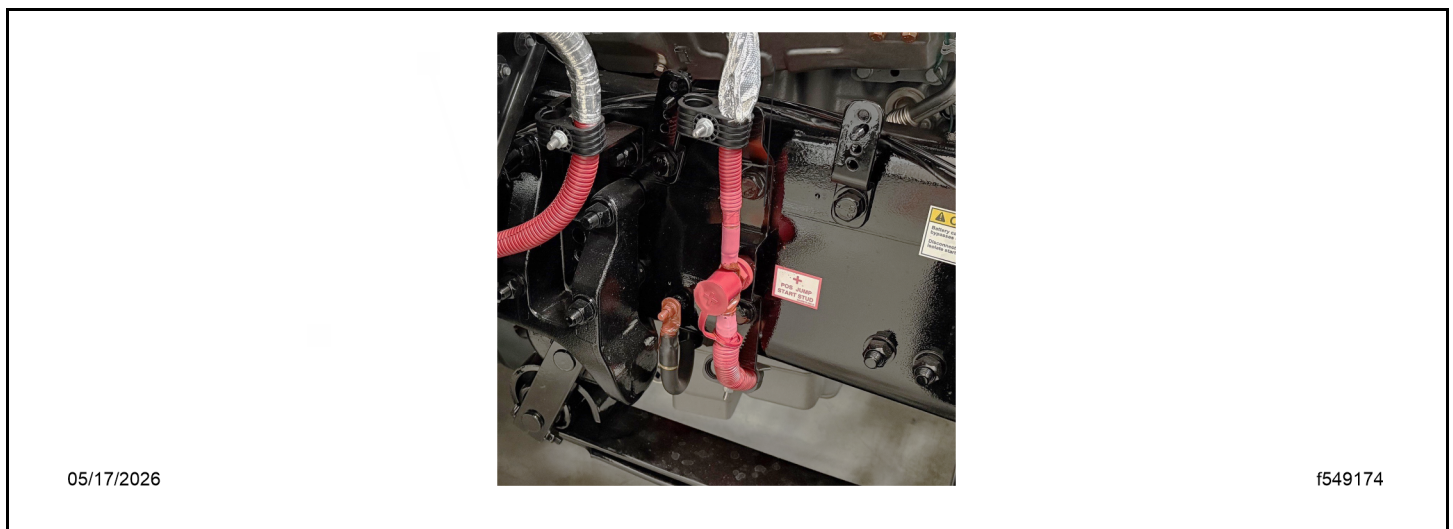

Fig 116, Isolated Battery Junction with Jump-Start Post
5. Locate the isolated positive (+) battery stud mounted on the frame behind the front wheel. See Fig. Fig. 116.